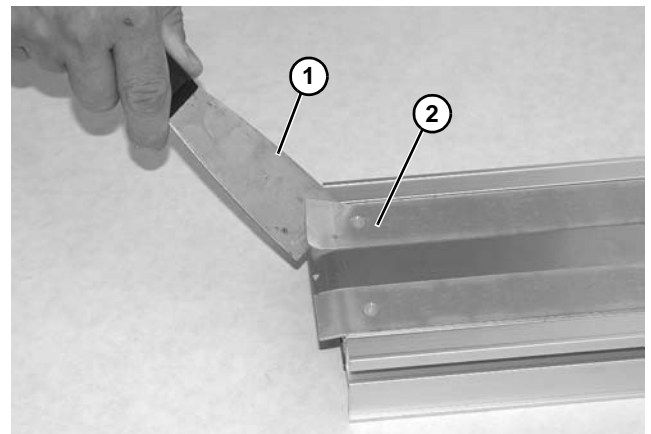

Figure 73
2. With a putty knife (**Figure 73, item 1**), start by raising edge of wear strip (**Figure 73, item 2**).